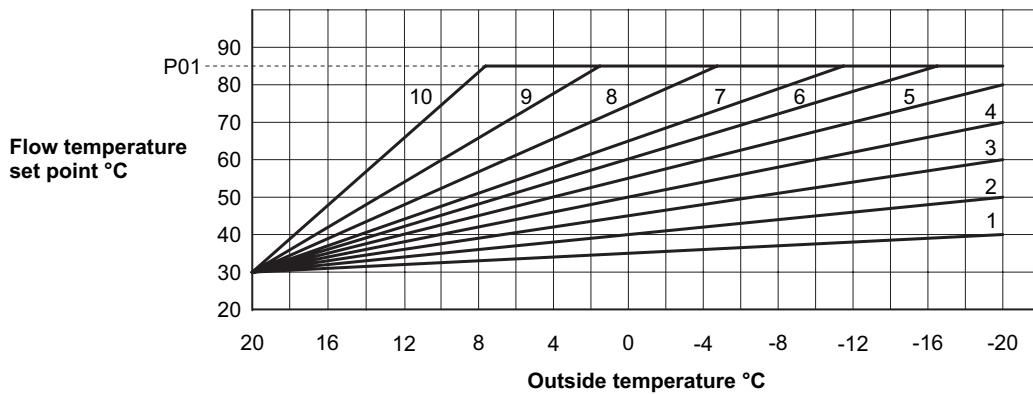

Fig. 5.12
5.8 EXTERNAL TEMPERATURE PROBE - Fig. 5.12
The correlation between boiler flow temperature and external temperature is determined by the curves shown in Fig. 5.12.